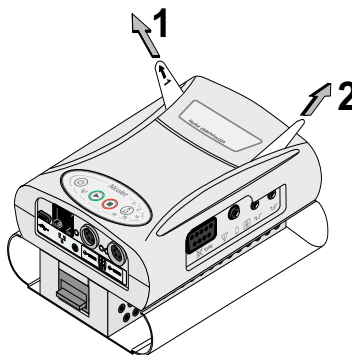

Figure 1
1. The first time the Nicolet EEGwireless32/64 amplifier is used, you must pull the two plastic strips out from the battery compartment (Figure 1) to activate the internal batteries for use with the Nicolet EEGwireless32/64 amplifier.